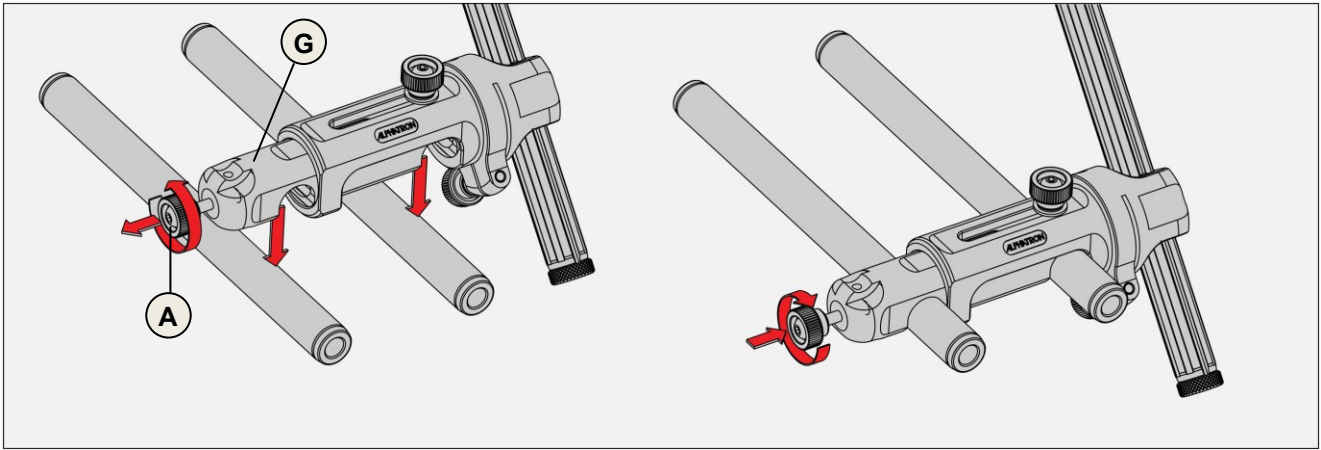

Figure 3: mounting the bracket to the 15mm rod system.
The EVF bracket is designed for use with a standard 15mm rod system (rods 60mm apart). Please place the bracket clamp (G) on the rods as shown in "figure 3". When the bracket clamp doesn't snap on the rods please unscrew clamping knob (A) counter-clockwise until it does.